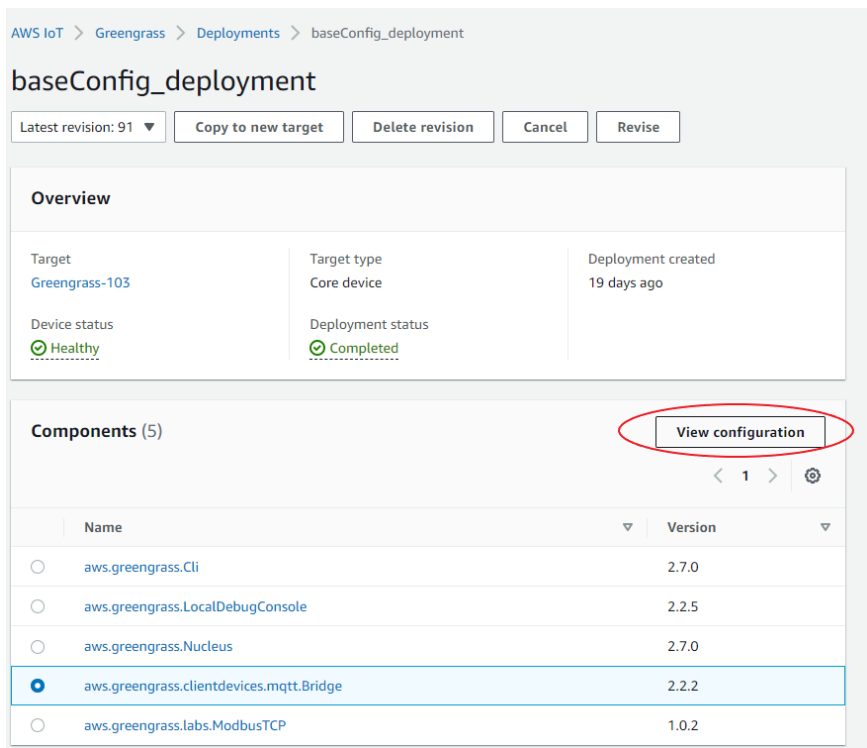

Figure 10.11 – Configuring a public component
*Figure 10.11* highlights the configuration button for a component. During deployment, you can select a component and then view the configuration for that component: